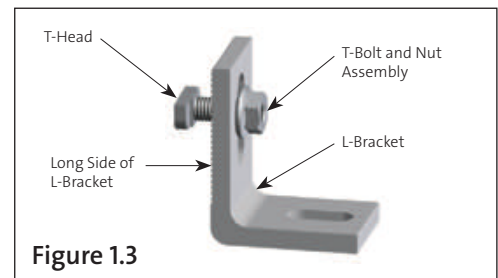

Figure 1.3
- 1.3. Pre-assemble T-Bolt and Nut Assembly ④ on the long side of the L-Bracket ⑤ with the T-head on the outside as shown in **Figure 1.3**. Preassemble loosely, with anti-seize compound on threads.